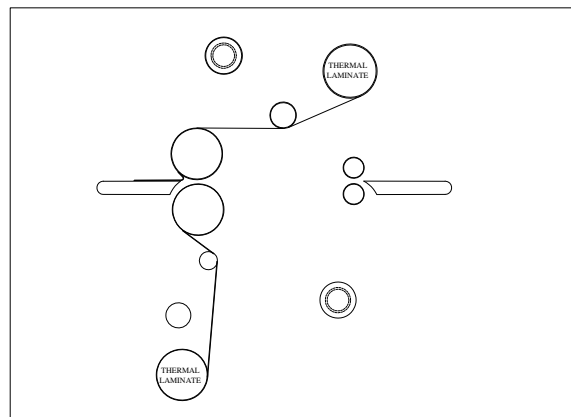

FIGURE 21
6. Pivot the table back to its feeding position while ensuring the threading card is on top of the feed table (Fig. 21).